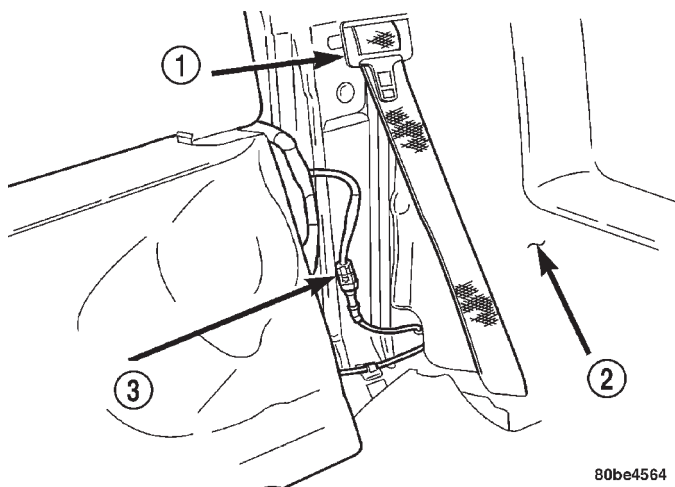
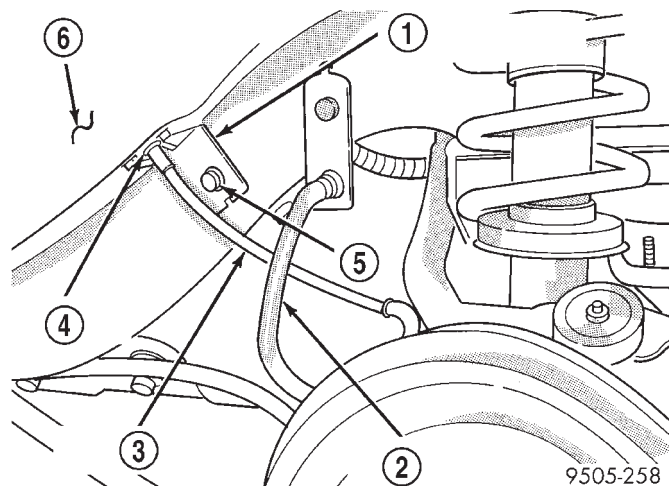
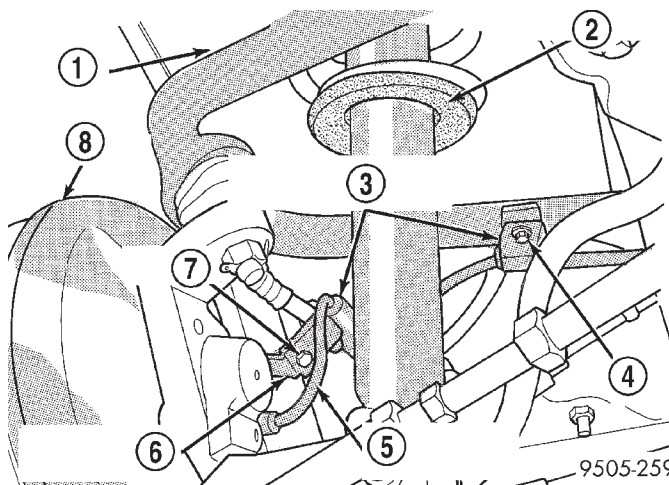

Fig. 46 Connection At Vehicle Wiring Harness
Fig. 47 Rear Speed Sensor Cable Attachment To Body
Fig. 48 Speed Sensor Cable Attachment To Rear Suspension
- (1) Remove the rear seat cushion and back, then disconnect the wheel speed sensor cable connector from the vehicle wiring harness (Fig. 46).
- (2) Raise vehicle on jack stands or centered on a frame contact type hoist. See Hoisting in the Lubrication and Maintenance section of this manual, for the required lifting procedure to be used for this vehicle.
- (3) Remove the rear tire and wheel assembly from the vehicle.
- (4) Remove speed sensor cable sealing grommet retainer (Fig. 47) from the rear frame rail of the vehicle. Then remove speed sensor cable sealing grommet and cable from hole in body of vehicle.
- (5) Remove speed sensor routing clips from the rear upper control arm and brake flex hose routing bracket (Fig. 48).
(3) Install speed sensor cable routing clips (Fig. 48) on the brake flex hose bracket and the bracket on the upper control arm. Install and securely tighten the routing clip attaching bolts.
(4) Install connector end of speed sensor cable through hole in inner fender and into trunk of vehicle.
(5) Install speed control sealing grommet into hole in inner fender. Install the sealing grommet retainer and attaching bolt (Fig. 47) on rear frame rail. Securely tighten retainer attaching bolt.
(6) Install the tire and wheel assembly on vehicle.
(7) Lower vehicle.
(8) Reconnect the wheel speed sensor cable connector to the vehicle wiring harness (Fig. 46), install any removed foam tape back around connectors, then reinstall the rear seat back and cushion.
(9) Road test vehicle to ensure proper operation of the base and ABS systems.